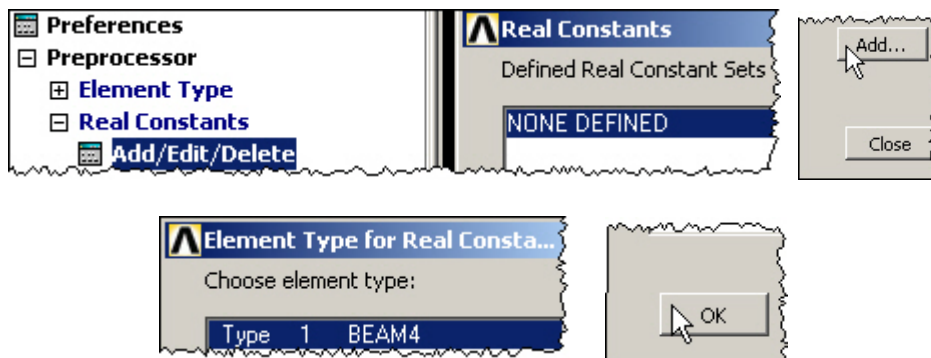

Figure 7 Starting the first set of real constants
3. Choose element type: **Type 1 BEAM4, OK**, as in Figure 7.